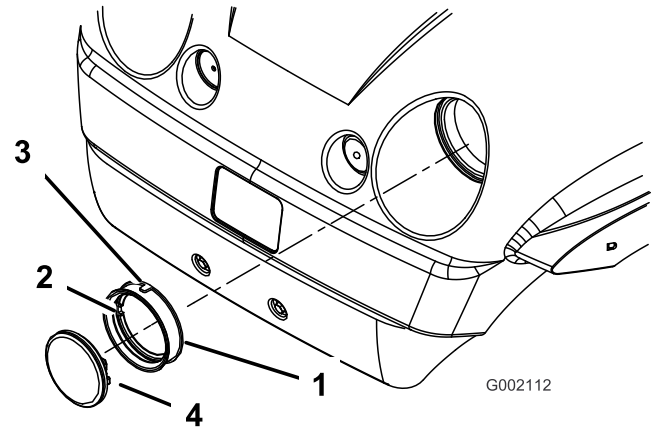

Figure 39
4. Remove the rubber seal from around the headlight (Figure 39). Discard the headlight.
5. Align the notch on the inside of the seal with the notch on the new headlight (Figure 39). Slide the seal onto the headlight until the seal is firmly in place.